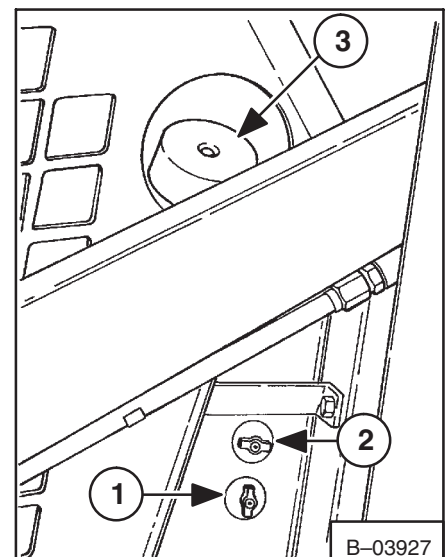

Fig. 1-31 Checking/Adding Fluid
2. Open the bottom check valve on the side of the reservoir (Fig. 1-31, Item 1). The fluid level is good if the fluid level is between the top and bottom check valves. If no fluid flows, close the valve and proceed with step 3.
3. Open the top check valve (Fig. 1-31, Item 2). Remove the fill cap (Fig. 1-31, Item 3) from the reservoir. Add fluid to the reservoir until it flows from the top check valve. Close the valve and replace the fill cap (See Section 8 for the correct fluid specifications).